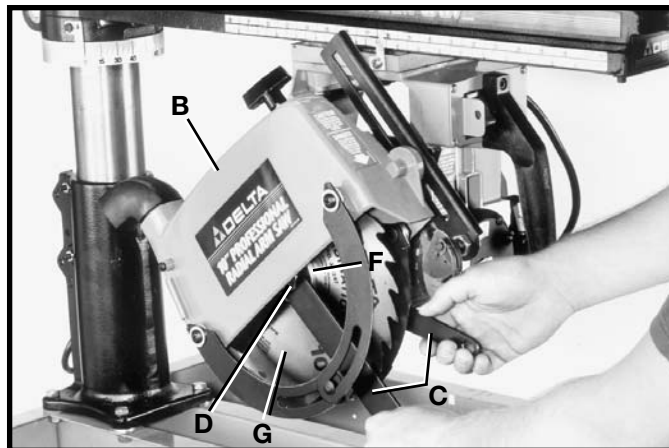
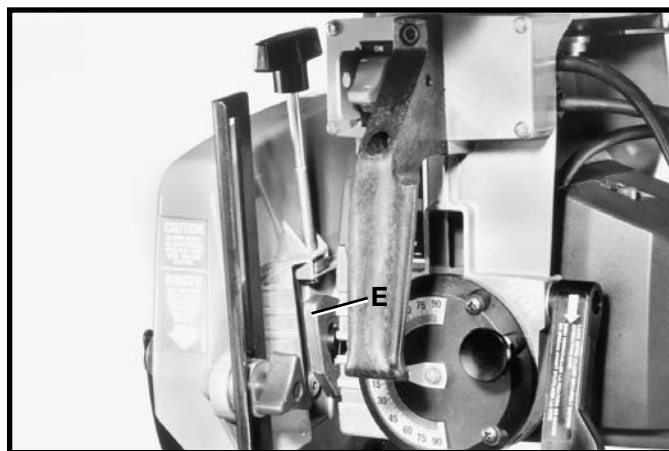

Fig. 12
Fig. 13
3. With wrenches supplied (C) Fig. 12, loosen arbor nut (D) as much as possible. **NOTE: Arbor nut has left hand threads.**
4. Lift cam (E) Fig. 13, which holds the blade guard (B) Fig. 12, in position and move the blade guard (B), outer blade flange (F), and blade (G) outward.